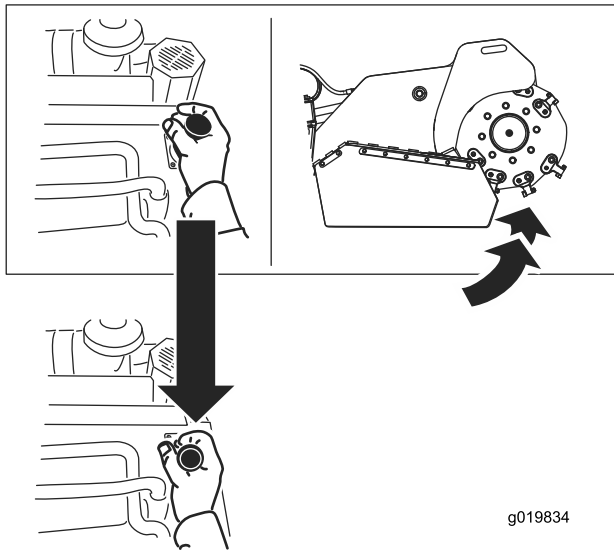

Figure 13
- To raise the grinder, pull the lever rearward (Figure 13).